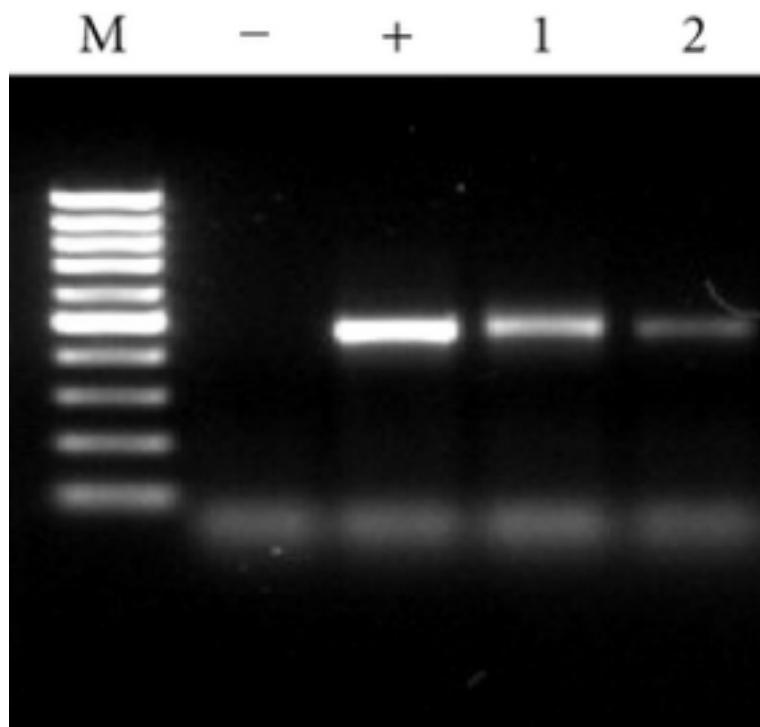

Figure 7.1. If your reactions worked, your gel should look about like this.
11. Assuming your results resemble the output in Figure 7.1, proceed to the next step. Otherwise, you may need to re-do one or more of the reactions; consult your TA.